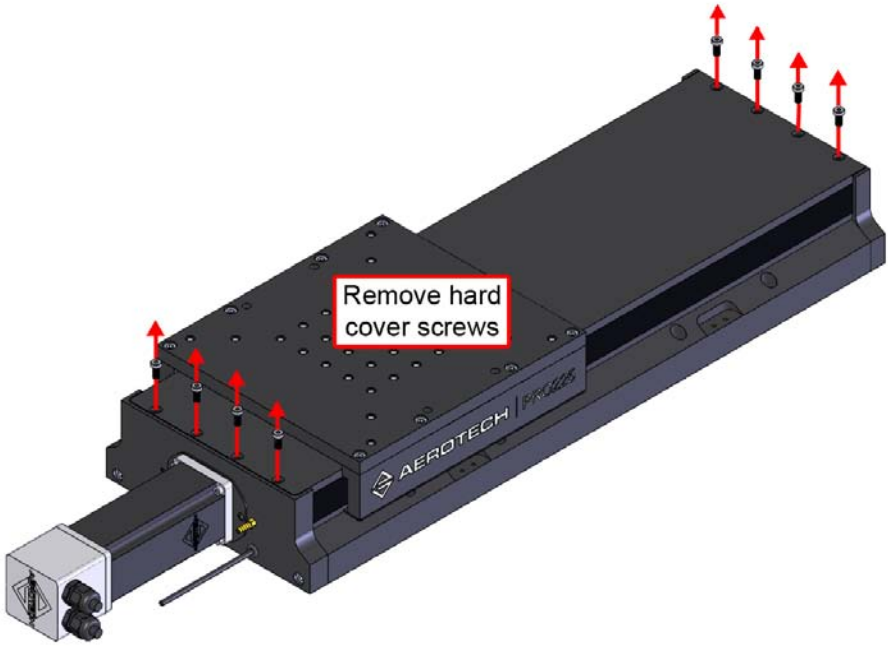
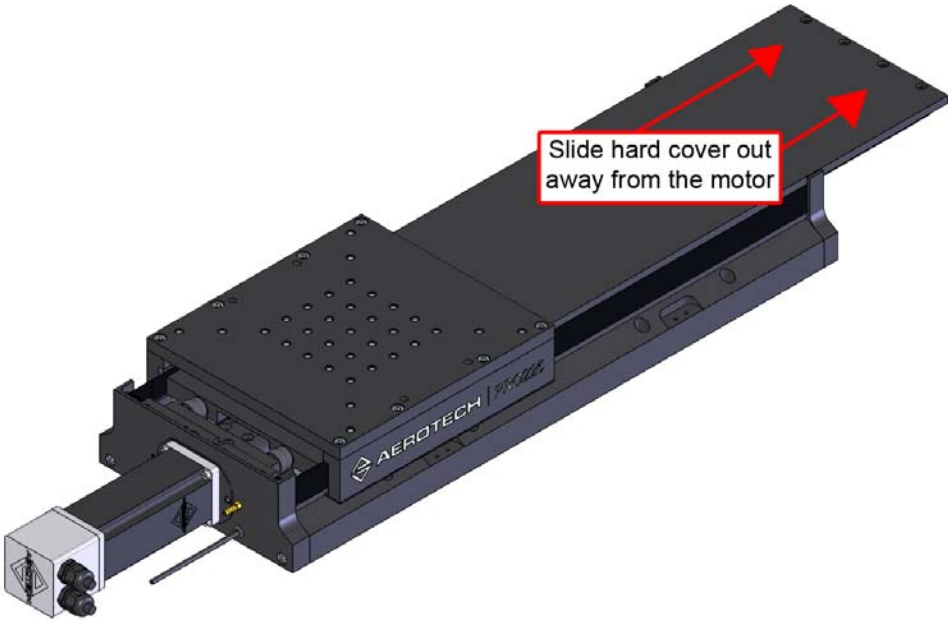

Figure 4-4: Hardcover Removal Procedure (Step 2)
Figure 4-5: Hardcover Removal Procedure (Step 3)
Step 2: Remove the screws on the edges of the hard cover (Figure 4-4) and slide it out from the side opposite of the motor (Figure 4-5). This can be done without removing the table.